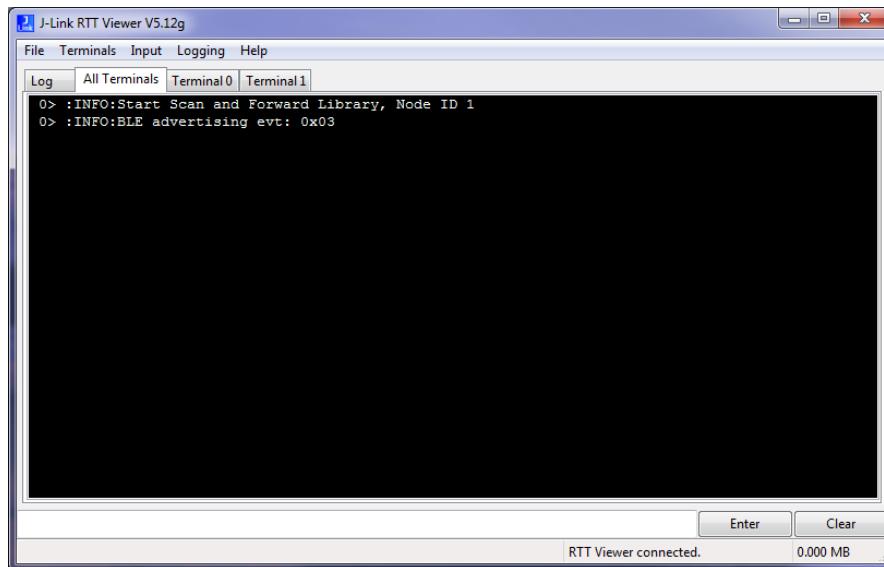

Figure 7. Example RTT Viewer Output
- A console window, like one shown in Figure 7, with the debug output from the node will now be visible.